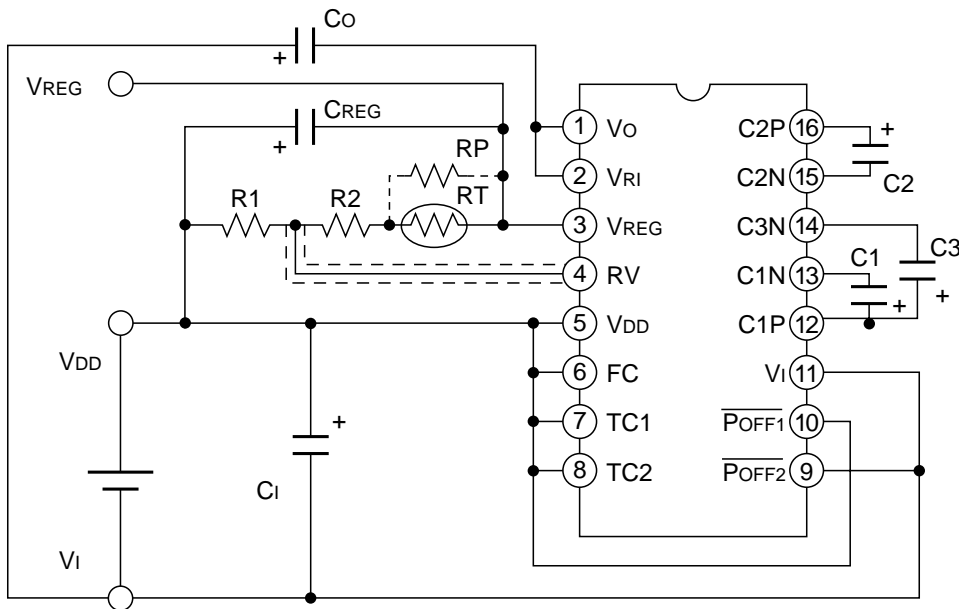

Figure 2.16 Wiring example when changing the regulator temperature coefficient
voltage. To set another temperature coefficient, use a thermistor resistor or others as shown in Figure 2.16.
- ◇ Setup conditions of Figure 2.16
- The thermistor resistor (RT) has the non-linear temperature characteristics. To correct them to the linear characteristics, insert the RP as shown Figure 2.16.